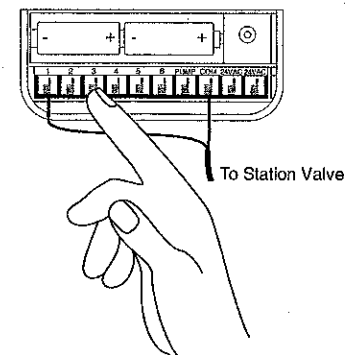

Figure 20: Connecting Valve Wires
- ◆ Connect the common wire to the terminal labeled "COM" [See Figure 20].